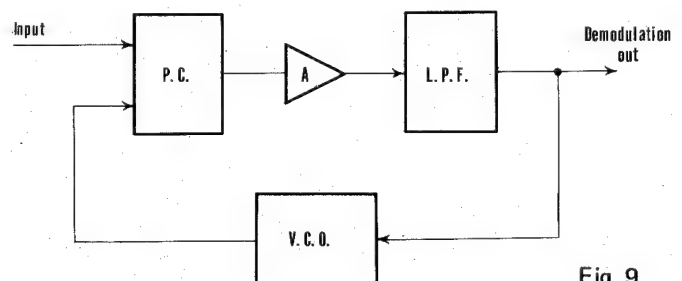

Fig. 9
The block diagram of the PLL FM demodulator circuit is depicted in Fig. 9. This circuit consists of a voltage control oscillator (VCO), phase comparator (PC), DC amplifier (A) and low pass filter (LPF), with a type of NFB loop following the input signal. The VCO oscillates at a controlled frequency according to the LPF output voltage. A voltage proportional to the phase difference between the input signal and VCO oscillation output is generated in the PC. By using this voltage to control the VCO oscillation, the oscillation becomes locked to the input signal phase.